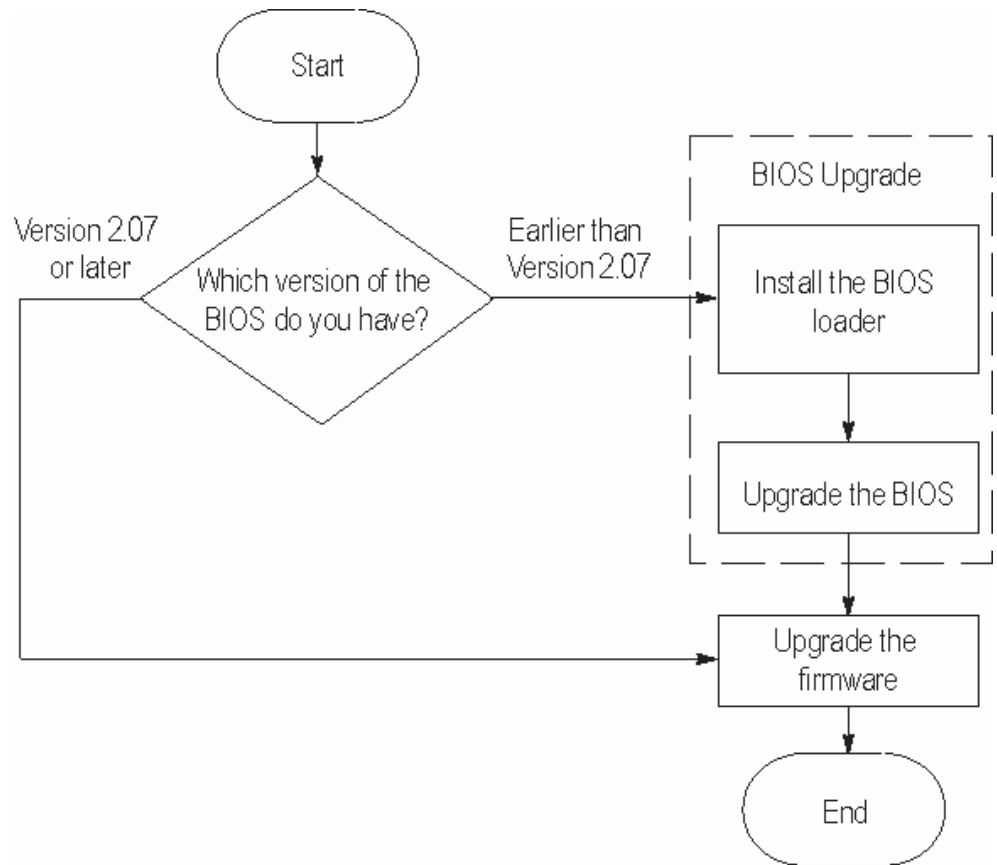

Figure 4: Upgrade Path
- Refer to Figure 4 and identify the actions required.